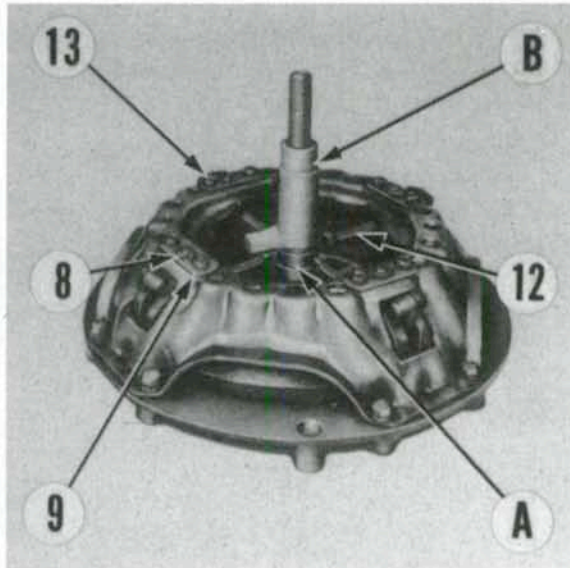

Fig. 178—Use gage spacer (A) and lever gage (B) on clutch fixture tool as shown to adjust release lever height. Refer to text.
Install spacer, tool No. 1276, (A—Fig. 178) and release lever gage, tool No. 1267, (B) on fixture spindle. Adjust release lever height by turning each adjusting nut (8) until release levers (12) just contact bottom of gage. After lever height is set, stake the adjusting nuts.